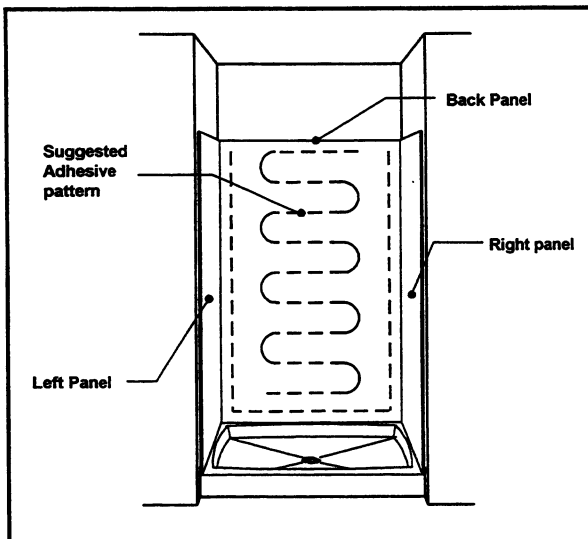

Fig. 4
- Step 8. Quickly apply adhesive directly to the sheetrock in heavy 3/8" diameter beads (two tubes will be required for each wall panel). The adhesive "skins" over quickly and excessive "skinning" can reduce the bond to the panels. Beads should be placed within 3" of the panel perimeter, and in a zig-zag pattern on 8" centers (shown by the dashed line in Fig. 4). Note: For the left panel of the neo-angle shower put an additional bead near the outer edge of the panel to provide additional support for the shower enclosure hardware. Place the wall panel into position and press firmly into the adhesive.